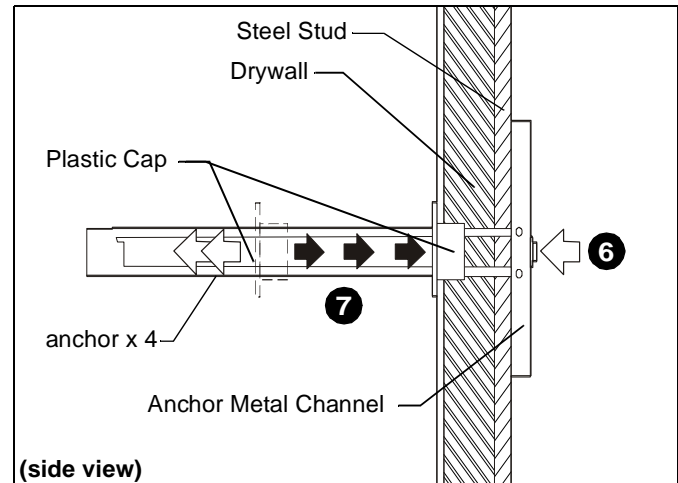

Figure 6
6. Holding plastic straps on anchor, pull anchor away from wall until channel rests flush behind wall making sure anchor channel is positioned vertically on stud. (See Figure 6)
7. Slide plastic cap on anchor towards wall until flange of cap is flush with wall. (See Figure 6)